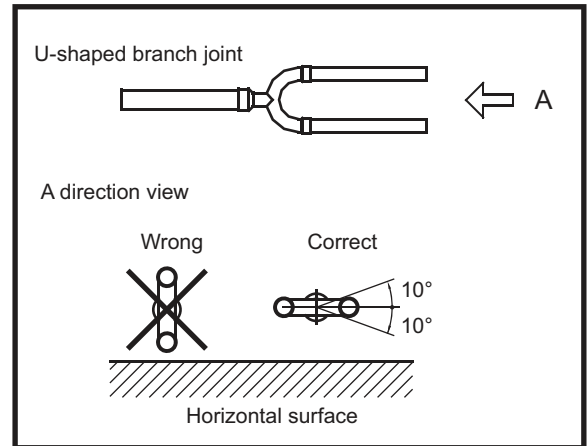

Fig. 23 — Correct Branch Joint Positioning
4. The branch joint must be installed parallel to the ground, the angle of the joint should not be greater than 10 degrees. Positioning the branch joint more than 10 degrees from parallel can cause malfunctions. See Fig. 23 and 24 for correct positioning of the joint.